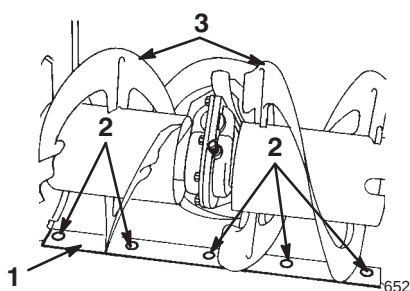

Figure 23
- Support the *auger blades* so that they are 1/8 inch (3 millimeters) off the ground (Fig. 23).
- To adjust the scraper, loosen the 5 mounting screws (Fig. 23), level the scraper, and tighten the mounting screws.